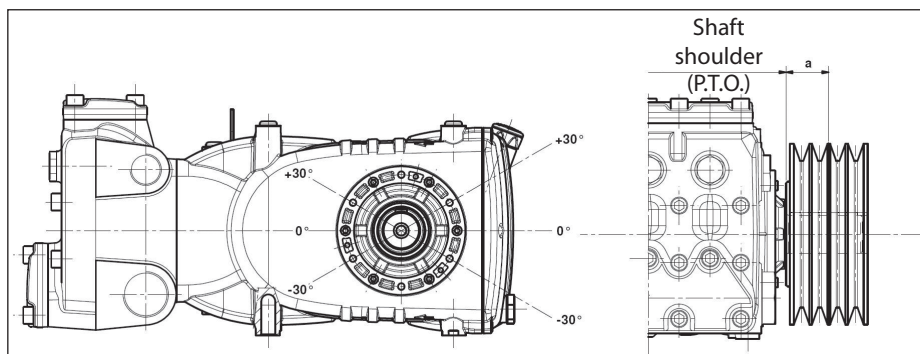

Fig. 10
The radial load on the shaft must not exceed 7500 N (value necessary for Layout definition). The transmission is considered adequate if the load is applied at a maximum distance  $a=40\text{ mm}$  from the shaft shoulder (P.T.O) as shown in Fig. 10.
- b) Use high performance belts – for example **XPB** instead of **SPB** – as a lower quantity of belts for the same transmitted power may be necessary and a consequent shorter resulting distance compared to the shaft shoulder (P.T.O) "a" of Fig. 10.